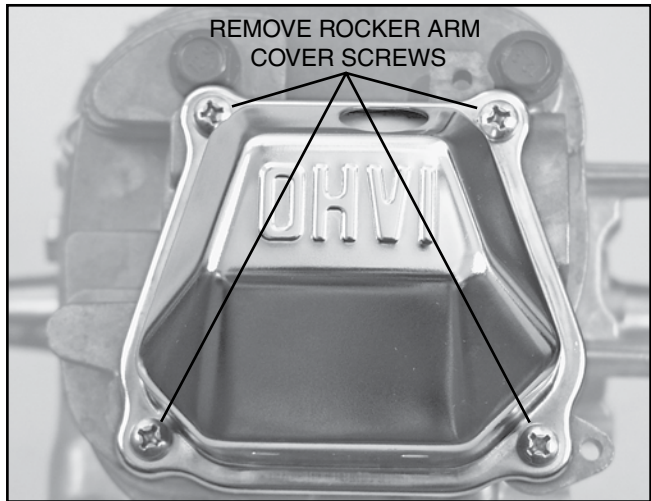

Figure 6-2. Removal of Rocker Arm Cover
1. Remove the oil breather tube. Remove the four M6-1.00 x 12mm screws. Then, remove the rocker arm cover (see Figure 6-2).